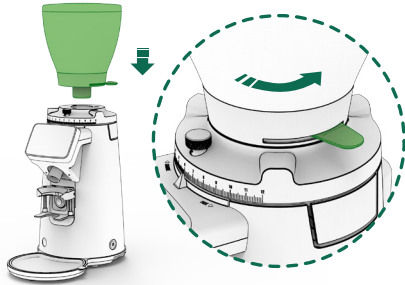

Fig. 1
Place the hopper (2) on the grind regulator (8) and make sure the bean trap (4) is in the closed position (Fig. 1).